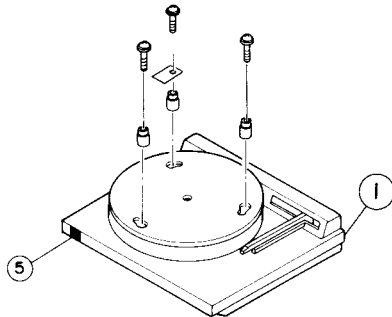

Figure 2
- (1) Press the POWER Button "5" so that the power will be switched off, and remove the turntable platter as shown in Figure 2.